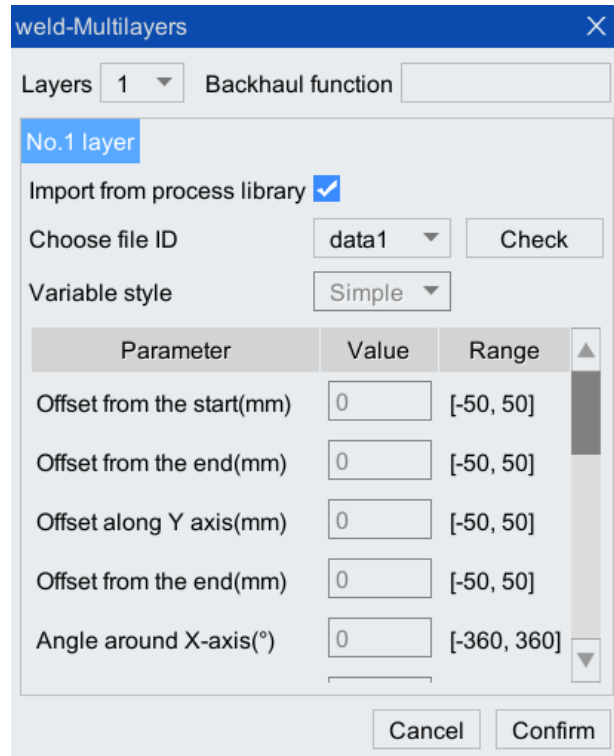

Figure 7-26 Multi-layer multi-channel instruction editing interface
Step2. Select the [Import from process library] check box, select the multilayers file to be imported in [Choose file ID], and enter the name of the return function in [Backhaul function]. Click <Confirm> (as shown in Figure 7-26) to generate multi-layer and multi-channel instruction.